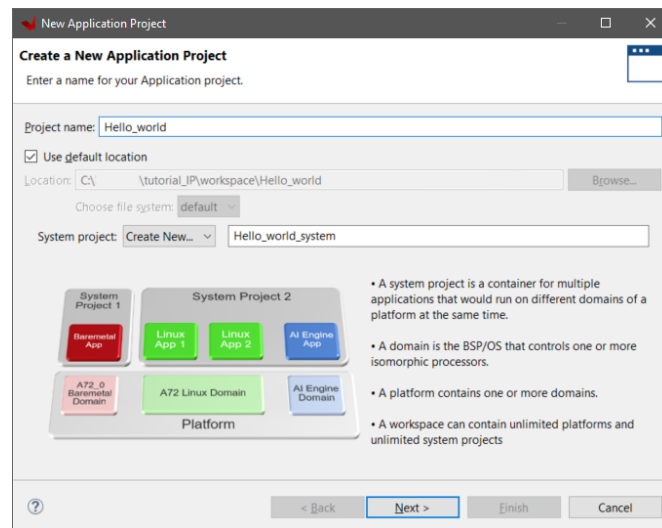

Figure 20
3. Type **Hello_world** in the **Project Name** field (Figure 20)